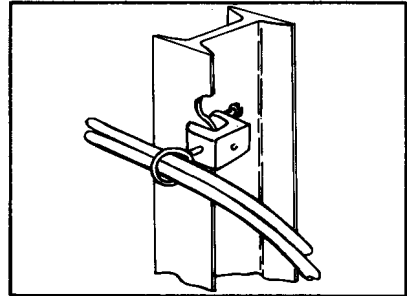

FIGURE 4. Beam Clamp
6.01 Beam Clamp (Figure 4): The beam clamp, equipped with an A, K, or M bridle ring, is used to support wire runs on I beams, angle irons, etc., on beam thickness up to 3/4 inch.